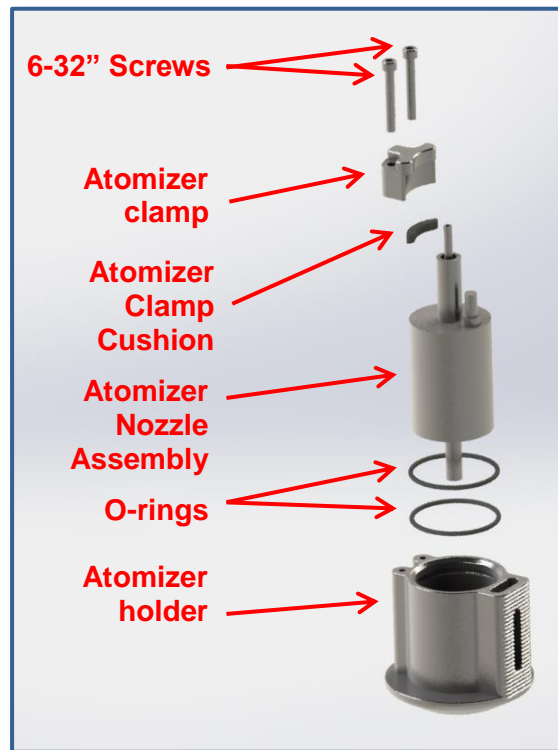

Figure 5-5: Nozzle Assembly
5.1.5 Figure 5-5 Shows an exploded view of the Atomizer Holder and Atomizer Nozzle Assembly